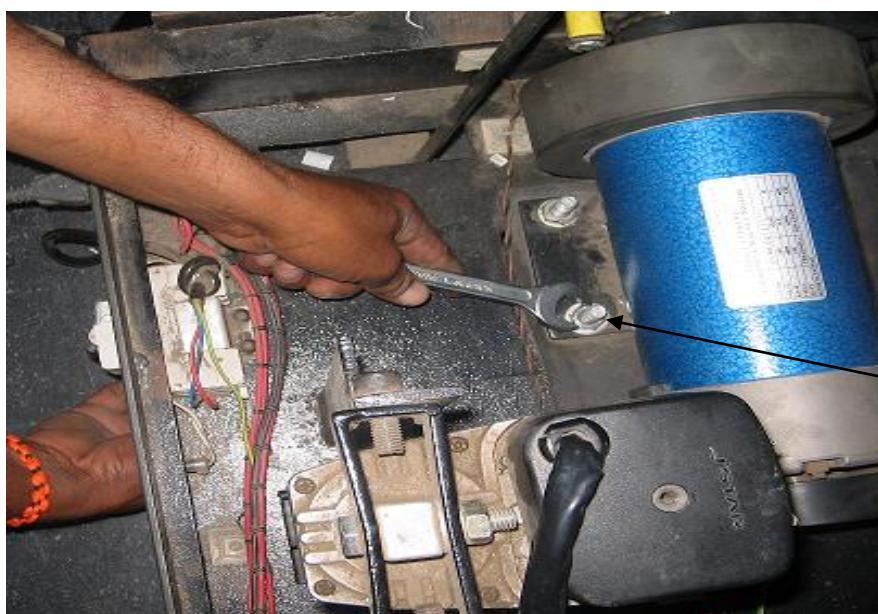

Fig.24
- e) Now remove four M10X40 hex bolt plus plain spring by removing M10 nut attached with it as shown in fig.24 and then DC motor can be easily removed from treadmill.